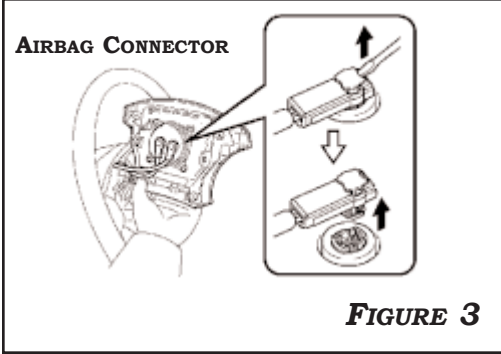

FIGURE 3
3. REMOVE GROUND TERMINAL AND DUMMY HORN/CRUISE CONNECTOR FROM STEERING WHEEL AND DISCARD. UTILIZE SMALL SCREWDRIVER TO REMOVE AIRBAG CONNECTORS AS ILLUSTRATED IN **FIGURE 3**.